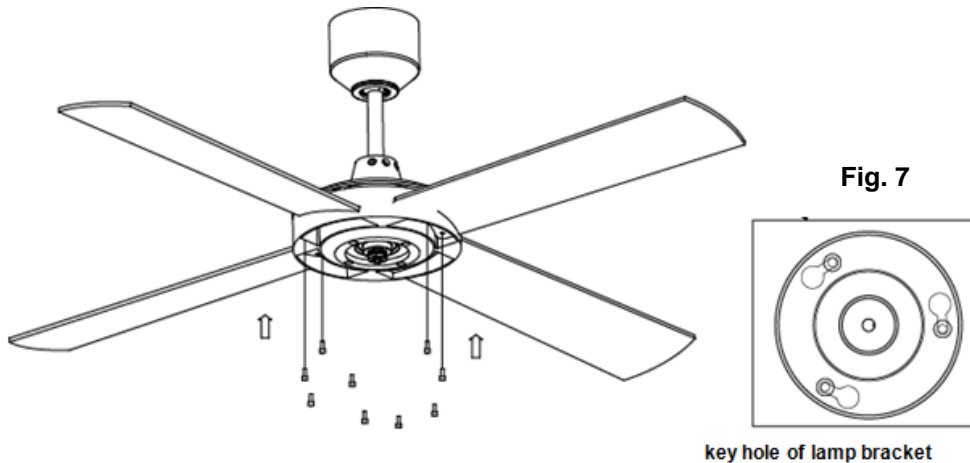

Fig. 7
5. Insert the blades through the side slot of the motor and align with the 3 holes. If the holes do not align, the blade is upside down. The blade should fit securely and the screws should slot into the blade screw holes. Insert the screw driver with screw through the key hole of the lamp bracket. Secure the blades with 3 blade screws. Ensure all screws are tightened evenly to reduce the chance of warping or unbalancing. Repeat this process for all blades. **Fig. 7**